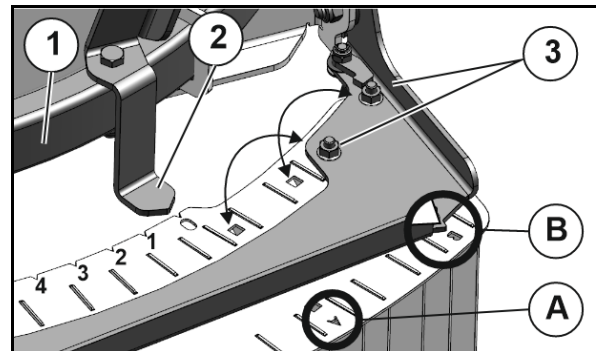

Fig. 64
2. Move the multi-disk block on the guide bar (Fig. 64/1) far enough that the pointer (Fig. 64/2) is positioned at the value from the setting chart that must be set.